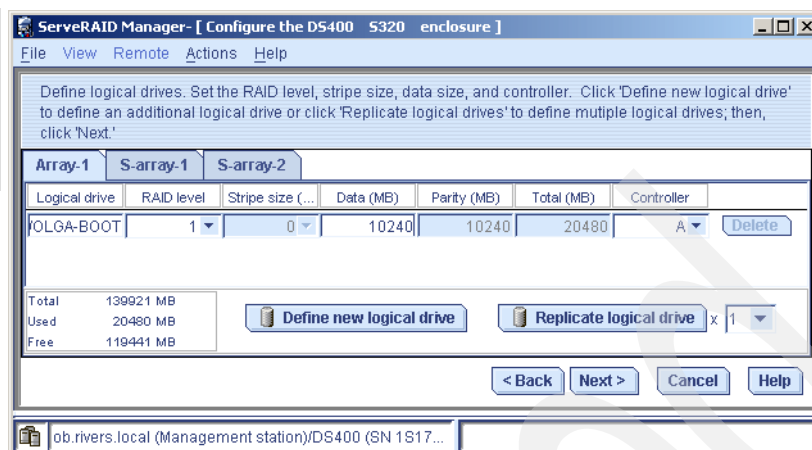
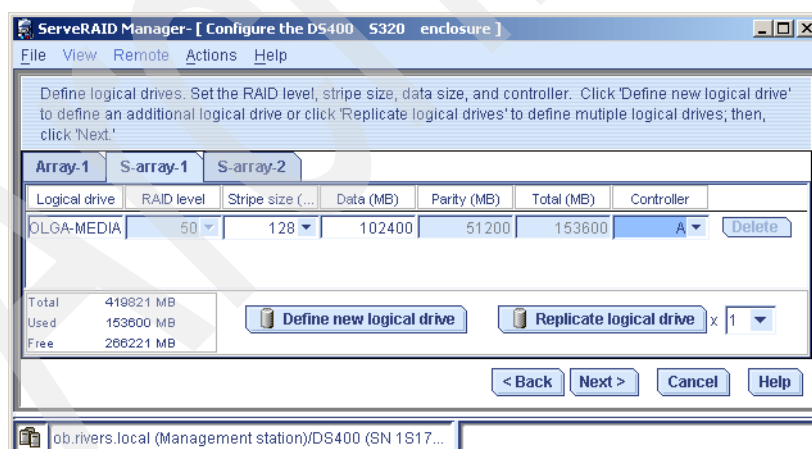

Figure 4-99 Create logical drives
Figure 4-100 RAID level
15. The window shown in Figure 4-99 on page 139 allows you to create logical drives in all defined arrays. The first logical drive in each array is already defined with the maximum logical drive size. Enter a meaningful device name. Select the RAID level. This RAID level is determined by the number of drives in the array. For a spanned array, the number of drives in the base array determines if a RAID 10 or 50 will be defined. Specify how large the logical drive will be. Choose the preferred controller.
16. In Figure 4-99, select **S-array-1**. Assign a meaningful device name for S-array-1. Figure 4-100 shows a logical drive named WOLGA-Media with a size of 100GB. The RAID level is automatically determined by the base arrays. Base arrays with more than 2 drives become a RAID 50 and arrays with at least and not more than two drives become a RAID 10. For logical drives in RAID 10 and RAID 50 arrays, the stripe size can be modified. Different stripe sizes are available. 256KB is the default value. Define the size of the logical drive and the preferred controller. Select **S-array-2**.